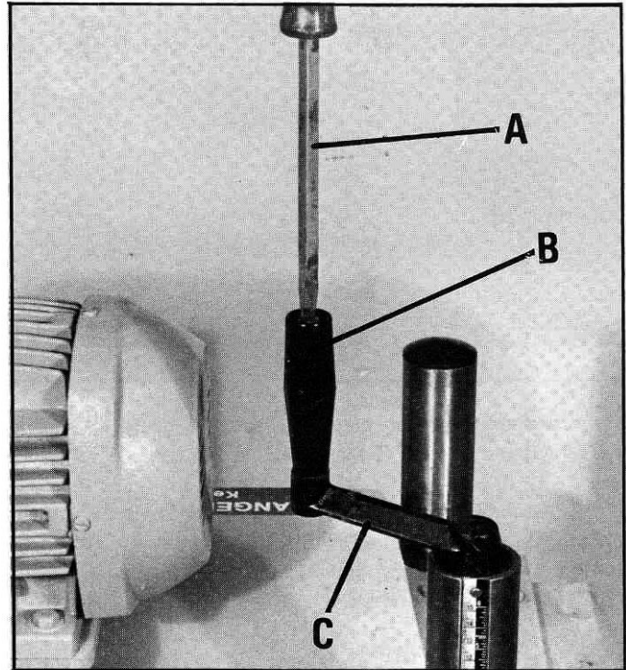

Fig. 9
Using a screw driver (A), assemble the head raising and lowering handle (B) to the handle bracket (C) as shown in Fig. 9.